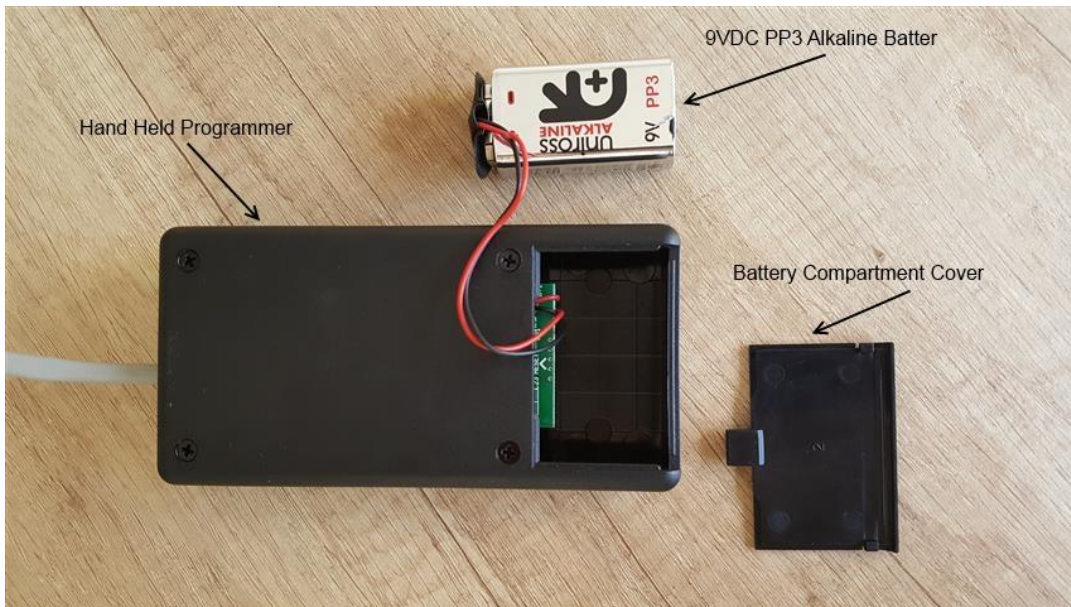

Figure 1
- Referring to Figure 1 above, remove the battery compartment cover and extract the polarized battery connector.